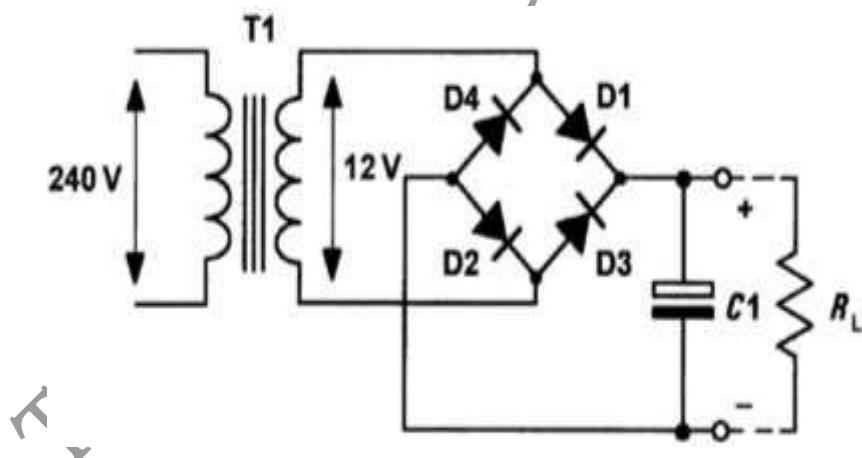

Figure 1.14 Bridge rectifier with reservoir
- Fig. 1.14 shows how a reservoir capacitor (C_1) can be added to maintain the output voltage when the diodes are not conducting.